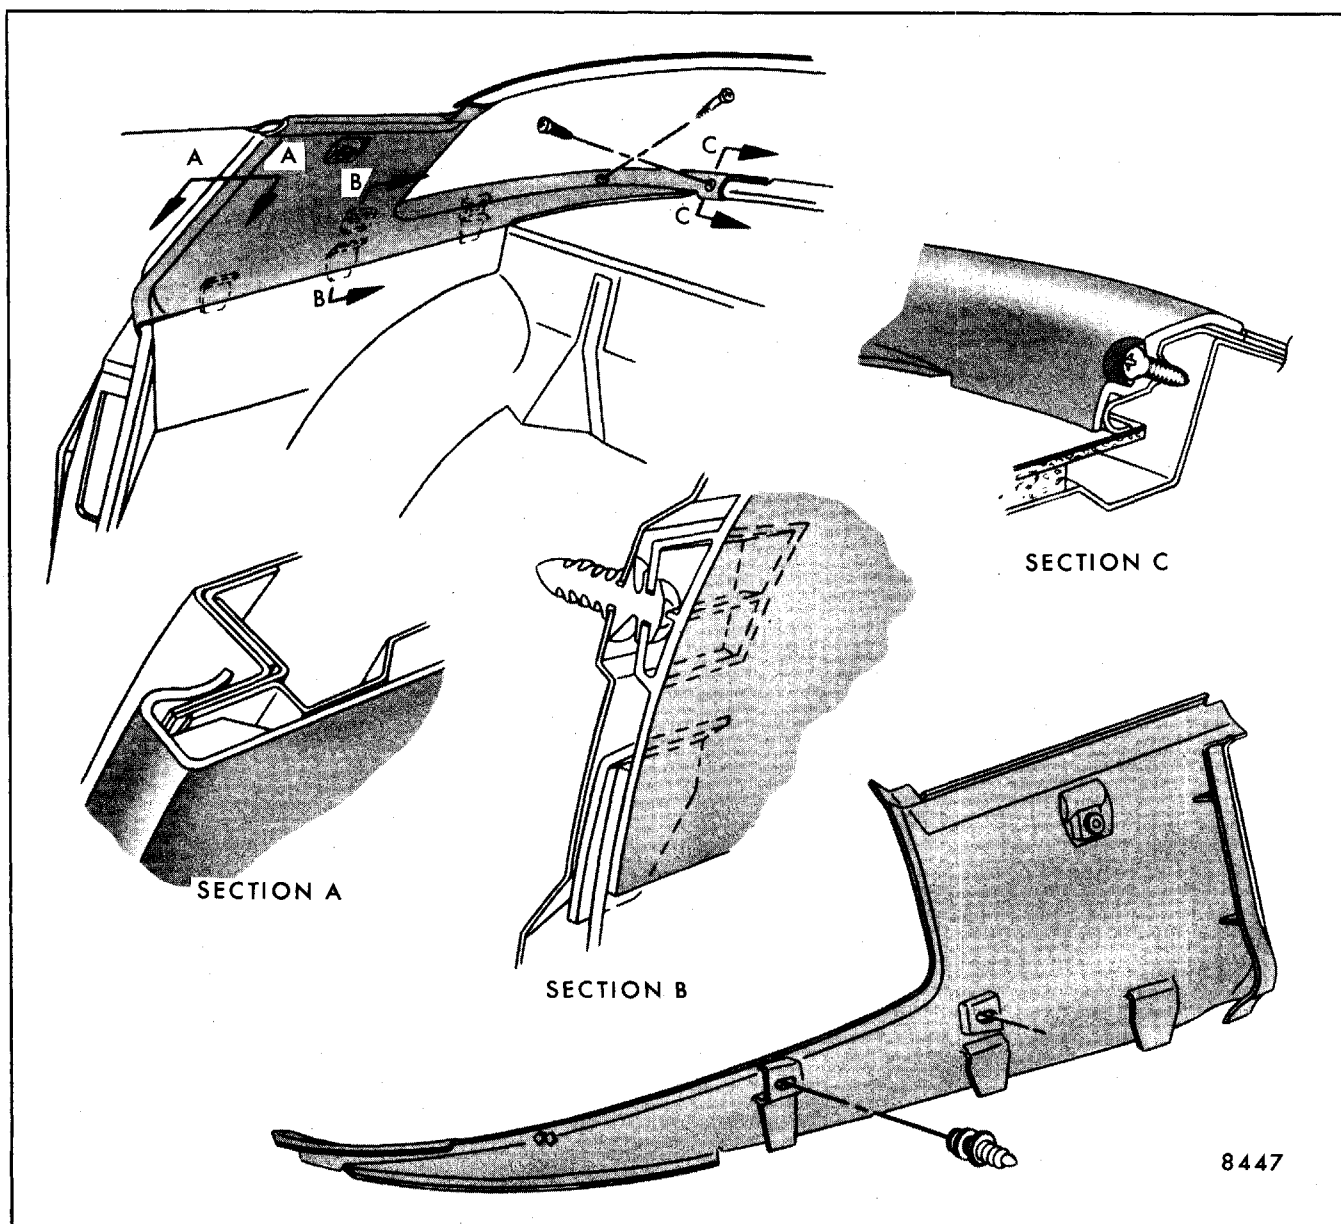

Fig. 6-11-Rear Quarter Upper Trim Attachment - "F" Styles
3. Remove quarter upper trim on "F" styles by disengaging plastic clips (Section "B", Fig. 6-11) and removing attaching screws from rear of trim panel (Section "C", Fig. 6-11).